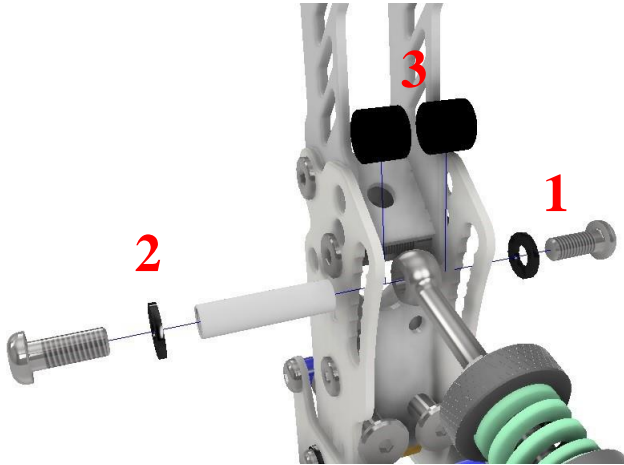

Fig. 4 Sequence of parts fastening the compression spring
- C. Move the eyebolt fastening the spring to the desired height and screw it in keeping the correct sequence of parts [Fig.4].